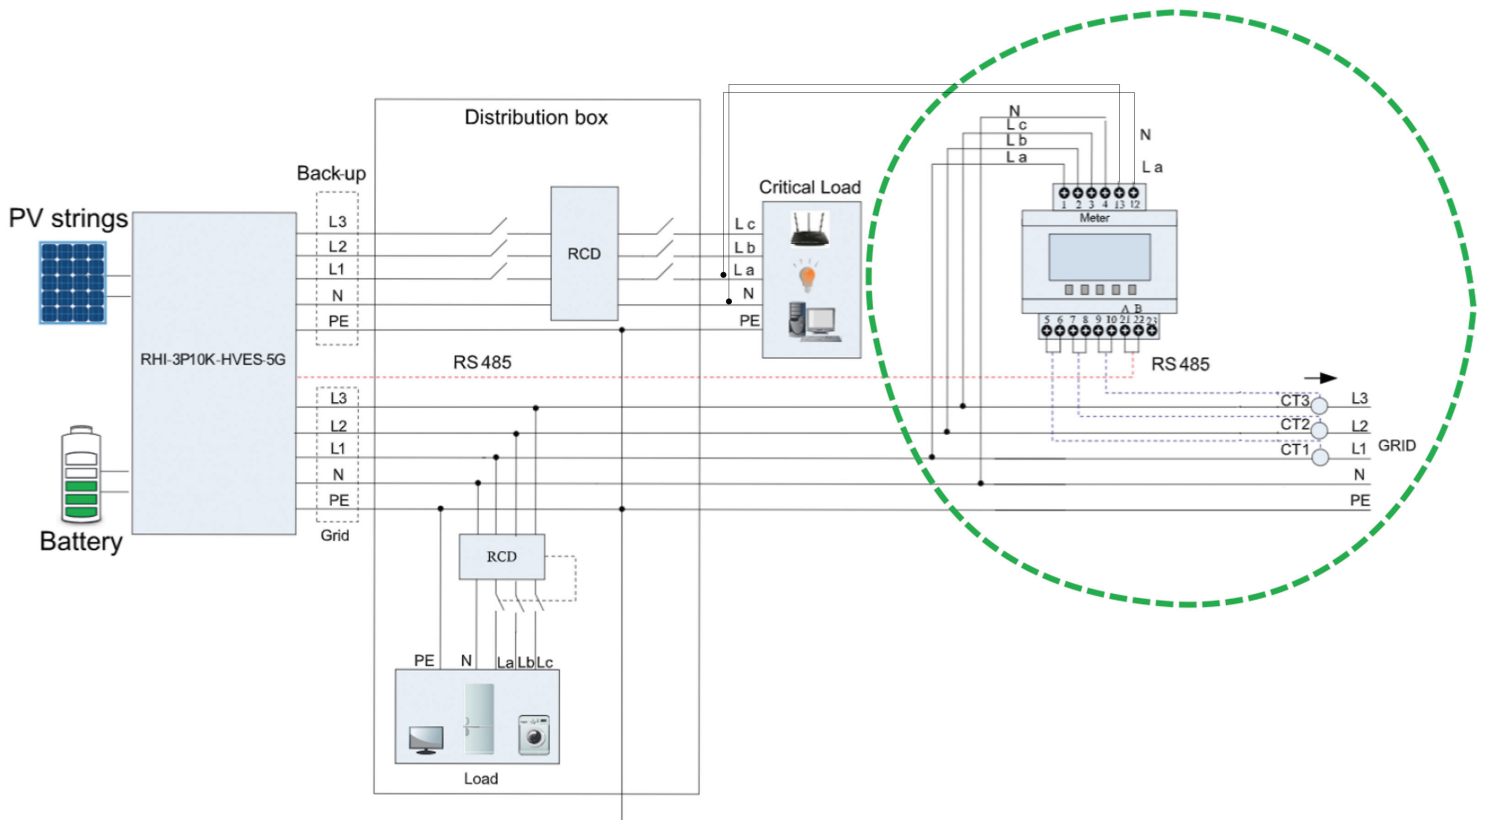
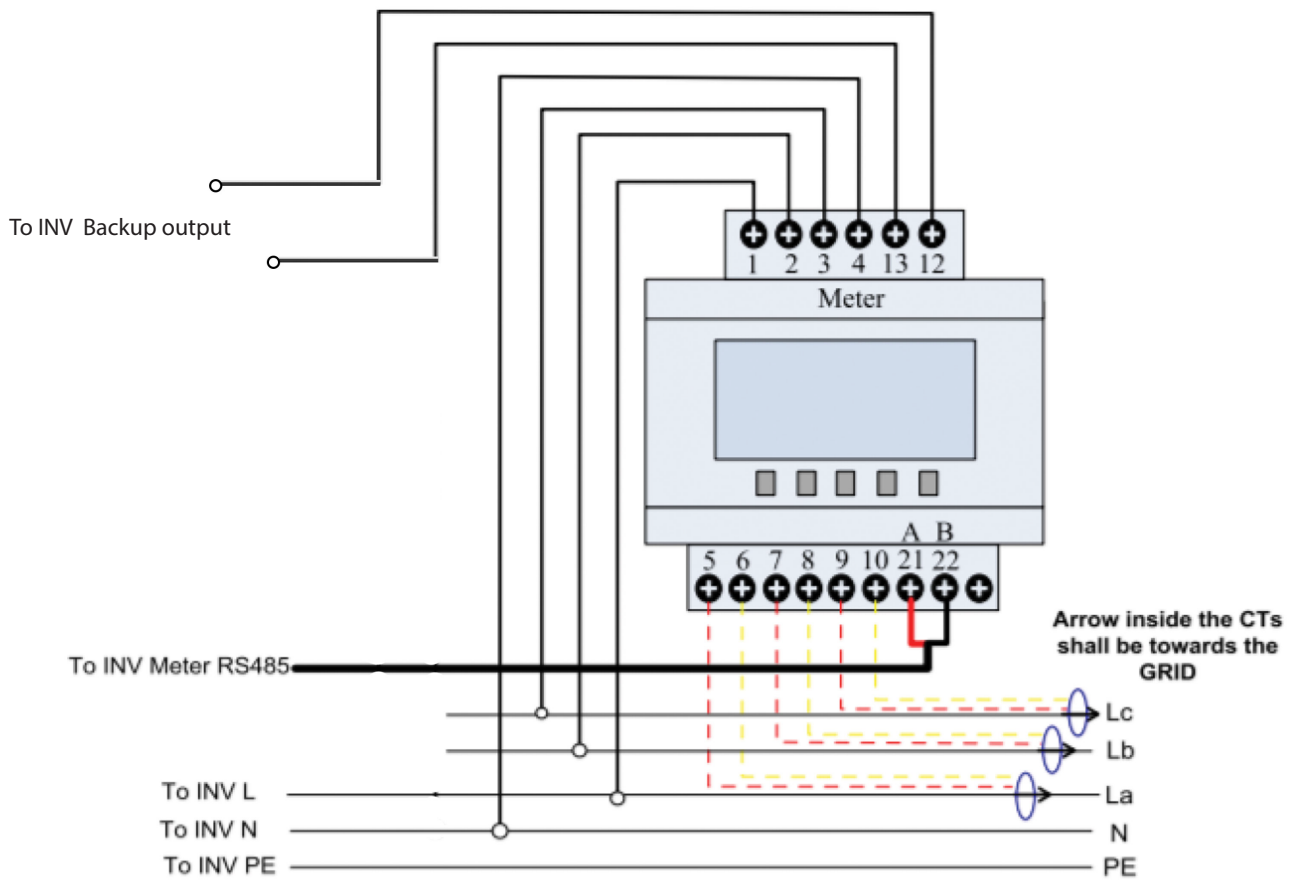

Figure 3: System Diagram
Figure 4: Detailed Cable Connection of Meter and CTs
The ports 5-6, 7-8 and 9-10 are the CT cable connections. Please ensure the CTs are connected with the correct polarity and the corresponding grid phase. Also, please note the small arrow inside the CTs, as shown in Figure 5, shall be pointed towards the Grid (5-6 to La, 7-8 to Lb, 9-10 to Lc) as shown in Figure 4.
1,2,3 and 4 are the voltage detection ports. Please connect the ports with the corresponding grid phases (1 to La, 2 to Lb, 3 to Lc, 4 to N) as shown in Figure 4.
12 and 13 are the auxiliary power source of the meter, 13 should be connected to the Neutral Wire(N) while the 12 should be connected to line La on the inverter backup output as shown in Figure 4 and Figure 3.